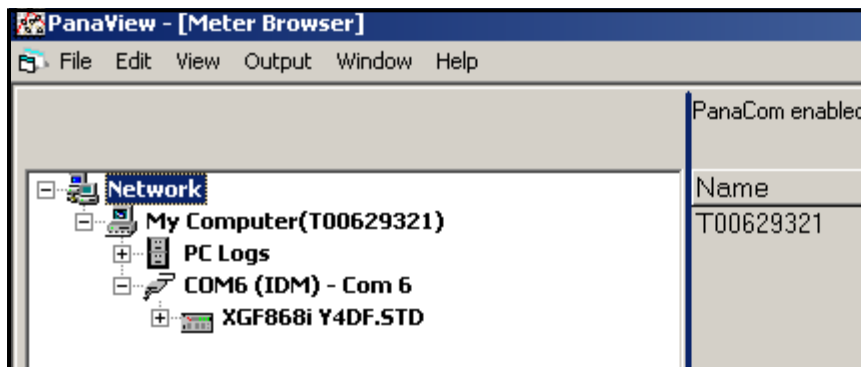

Figure 15: The Text Display Window
2. Using the *Window* menu, as described in the *PanaView User's Manual*, arrange the open windows in the desired format. For this discussion, *Figure 15* below shows the *Text Display* window in its maximized (full-screen) size.
5. Before actual data values can be displayed in the text pane, activate one of the following data collection modes (see *Figure 15 on page 38*):